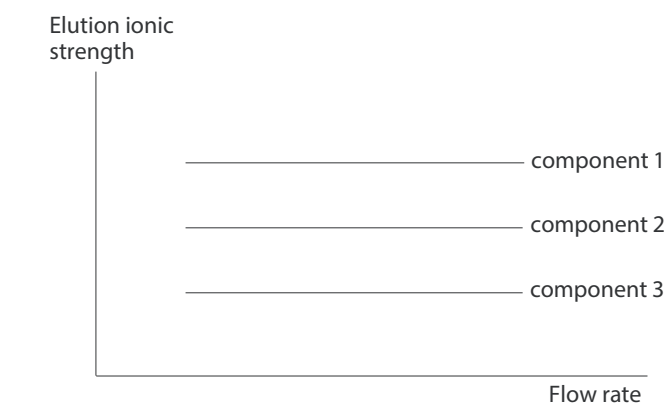

Fig 1.
1. Best separating pH and buffer system for the sample can be determined by scouting on a Mono Q 5/50 GL column. High flow rates (up to 2 mL/min) and small gradient volumes (20 mL) may be used to save time. The elution ionic strength for each separated component is independent of the flow rate (Figure 1, on page 3).